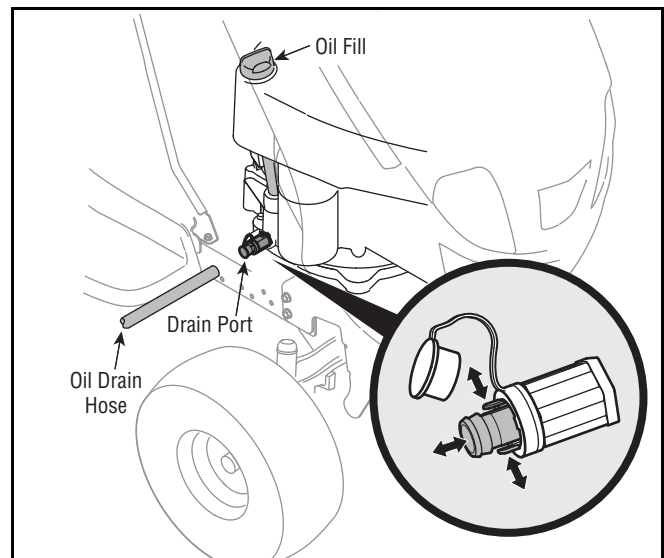

Figure 16
- Pop open the protective cap on the end of the oil drain valve to expose the oil drain port. See Figure 16.
- Pinch the tabs on the oil drain valve, then pull outward to begin draining oil. See Figure 16 .